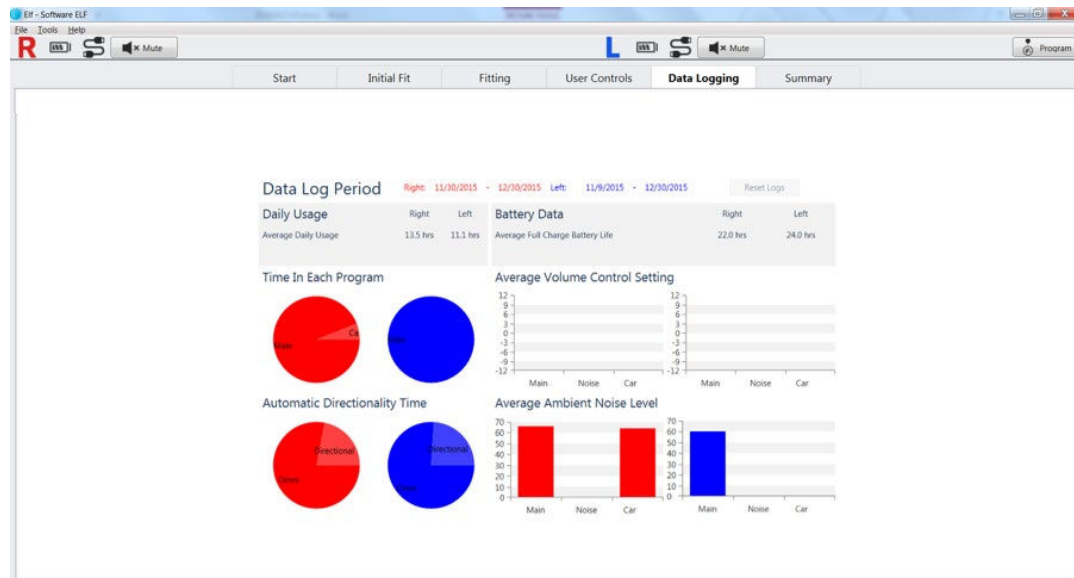

Figure 16. Data Logging screen
- **Data Logging:** View patient usage data (Figure 16).